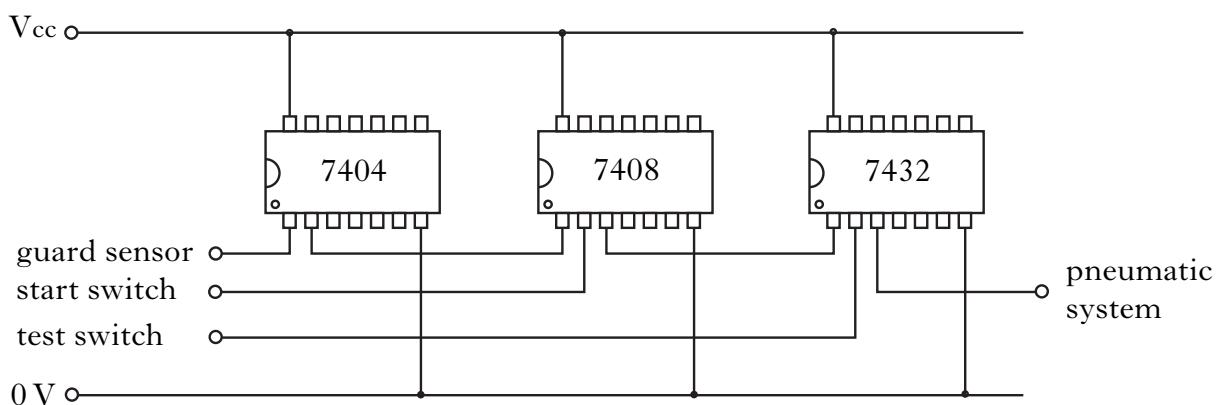

Figure Q9(d)
The control circuit used to activate the pneumatic system is shown in Figure Q9(d).
- (d) Complete, with reference to Figure Q9(d) and the Data Booklet, the logic diagram below for the control circuit.